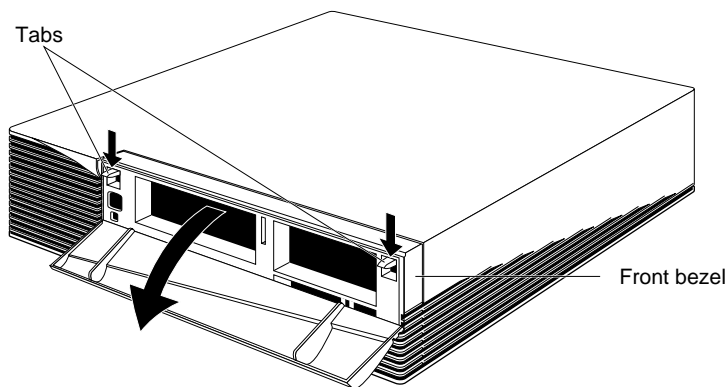

Figure 3-1 Removing the Front Bezel From the Indigo² Chassis
- Press down on the tabs on each side of the bezel, as shown in Figure 3-1.